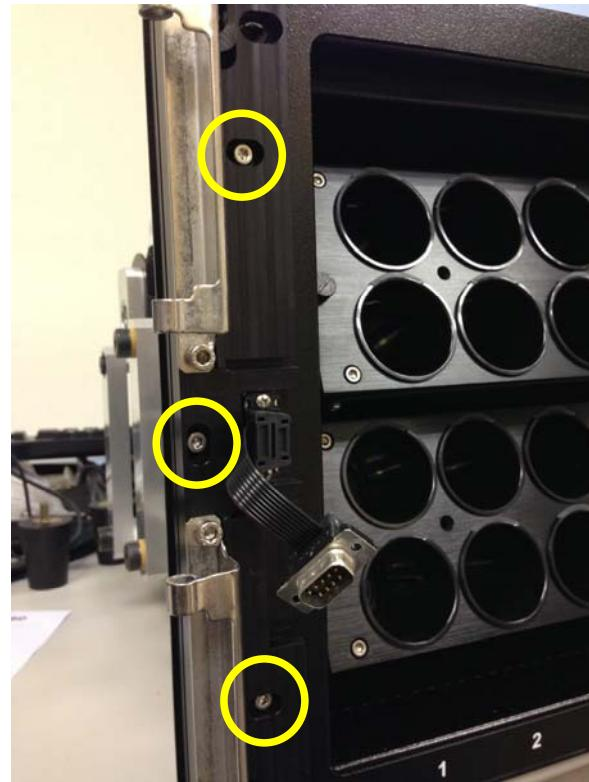

Figure 35
3. Remove three hex screws that hold the Hinge Assembly (**Figure 35**).